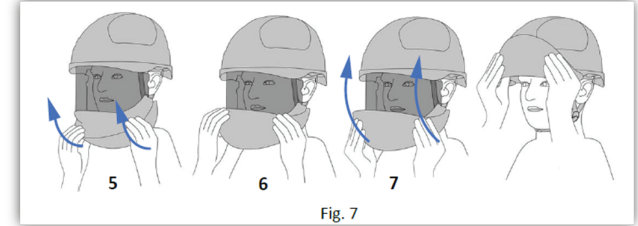

Fig. 7
2. In order to retract the face shield (Fig.7), first turn the chin cover outwards(5), until you hear a click of the chin cover hinges (6), and then slide the face shield into the helmet, by pushing it upward (7).